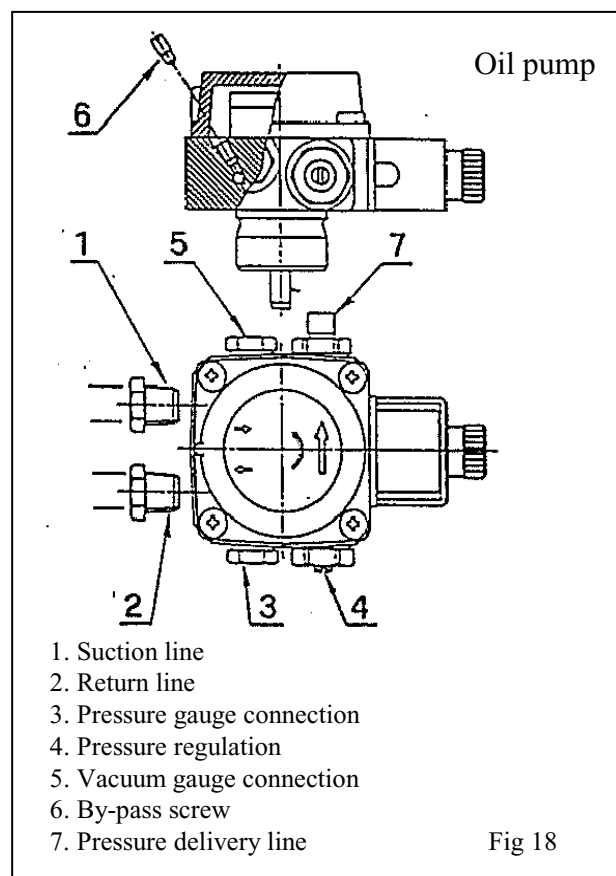

Fig 18
As described earlier under "Fuel Pressure Delivery Check" the pressure can be read on the gauge after having opened the gauge valve. The pressure has to be 13 bar and if not it can be adjusted with a screwdriver at the screw (4) on the pump. (fig. 18)